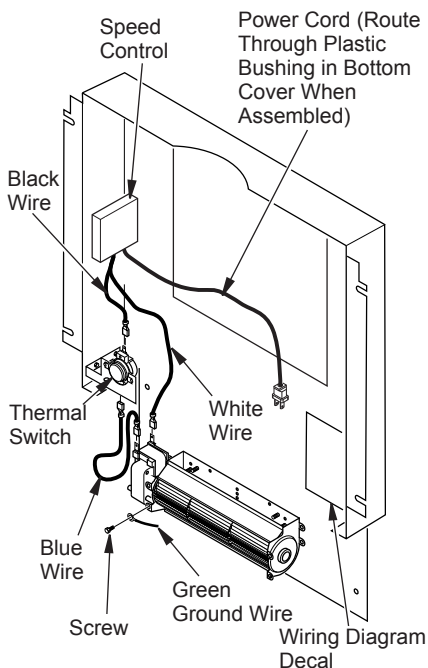

Figure 18 - Blower Wiring Layout
7. Place the green ground wire between the bottom hole on the blower assembly and the hex screw and tighten (see Figure 18).
8. Connect the blue wire on the blower assembly to one side of the thermal switch (see Figure 18).
9. Connect the black wire to the other side of the thermal switch (see Figure 18).
10. Connect the white wire to the other terminal on the blower motor assembly (see Figure 18). Make sure the thermal switch has been properly installed to fit against back of burner system insert after the rear cover assembly has been reinstalled.
13. Peel off the backing paper and stick the supplied wiring diagram decal on the inside of rear cover as shown (see Figure 18).